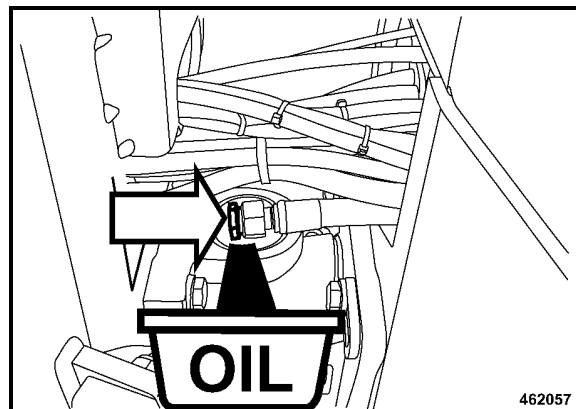

Fig. 131
- Unscrew the drain plug (Fig. 131) and catch running out oil.